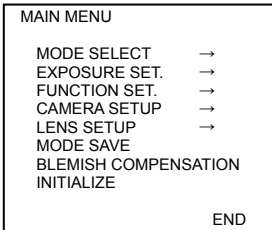

Figure 7-1 MAIN MENU
2. The settings screen shown in figure 7-1 is displayed.